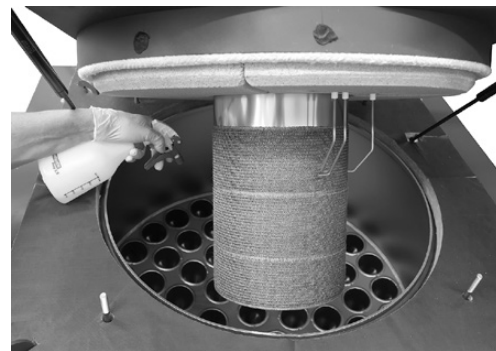

Fig. 55
- Spray the heating surfaces with chloride-free, phosphoric cleansing agent (e.g. Hoval boiler cleaner or Desoxin) (Fig. 55), allow to act and flush with a jet of water of a high-pressure cleaner.